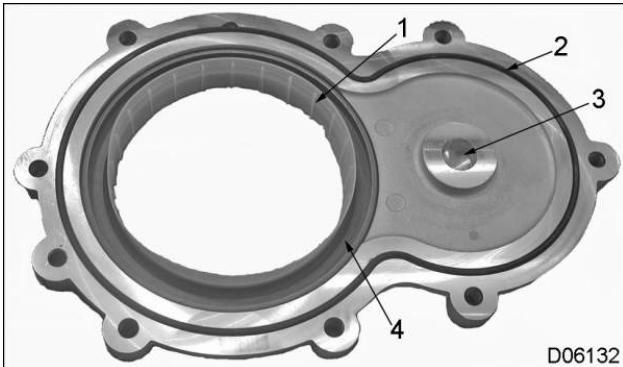

Figure 38 Rear Oil Seal Retainer and Seal
40. Identify the new rear oil seal retainer and seal (Figure 38). Verify the plastic installation tool is installed in the inner diameter of the seal. Do not remove the plastic installation tool from the inner diameter of the seal or damage to the seal and engine will occur.